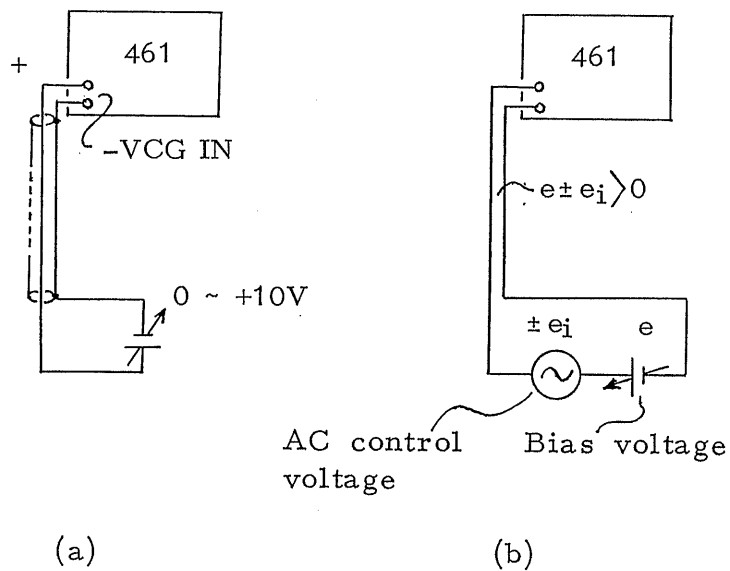

Fig. 3-5
3. Fig. 3-5 shows such typical connections.